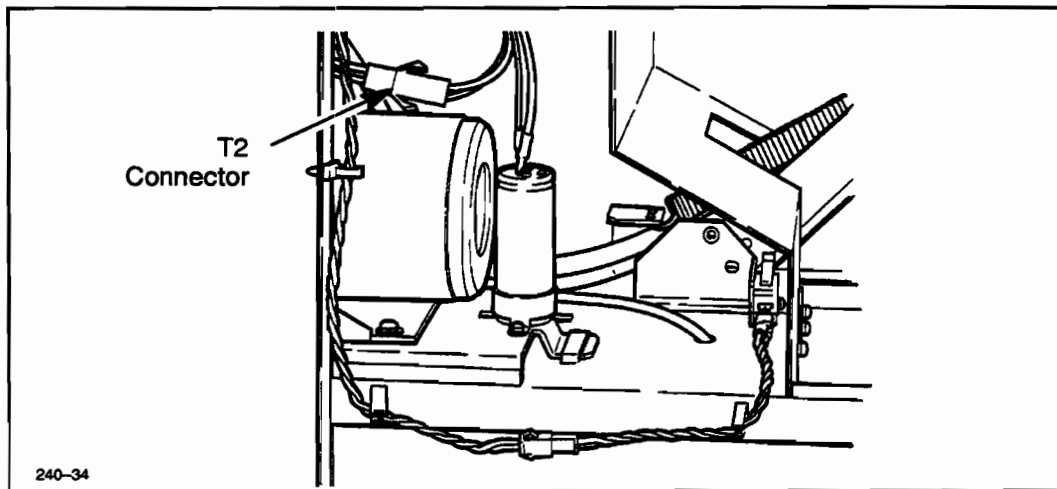

Figure 6-47. Pump Transformer Connector
1. Switch the plotter OFF (O) and disconnect the ac power cord and interface cable.
4. Disconnect the pump transformer (T2) connector. See Figure 6-47.